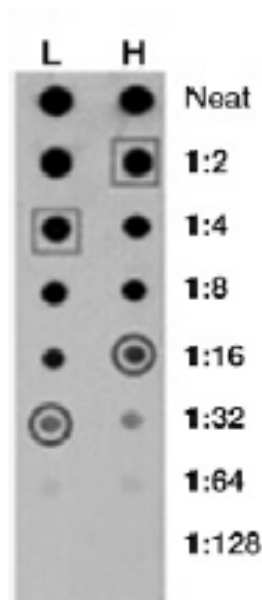

Fig. 1: Dot Blot
Eliminate distilled water, lay the membrane on a wet paper filter. Load onto the membrane 2  $\mu$ L of each dilution starting from the neat sample. LOW and HIGH conditions are to be loaded nearby for each dilutions (see Fig. 1). Allow for drying for 5 minutes.
- determine the appropriate sample dilution corresponding to the first non-saturating signal intensity – see fig. 1: circles.
- count 3 dilutions above the selected dilution for each purification condition to select the most appropriate sample dilution (“Working dilution”) – see Fig. 1: squares